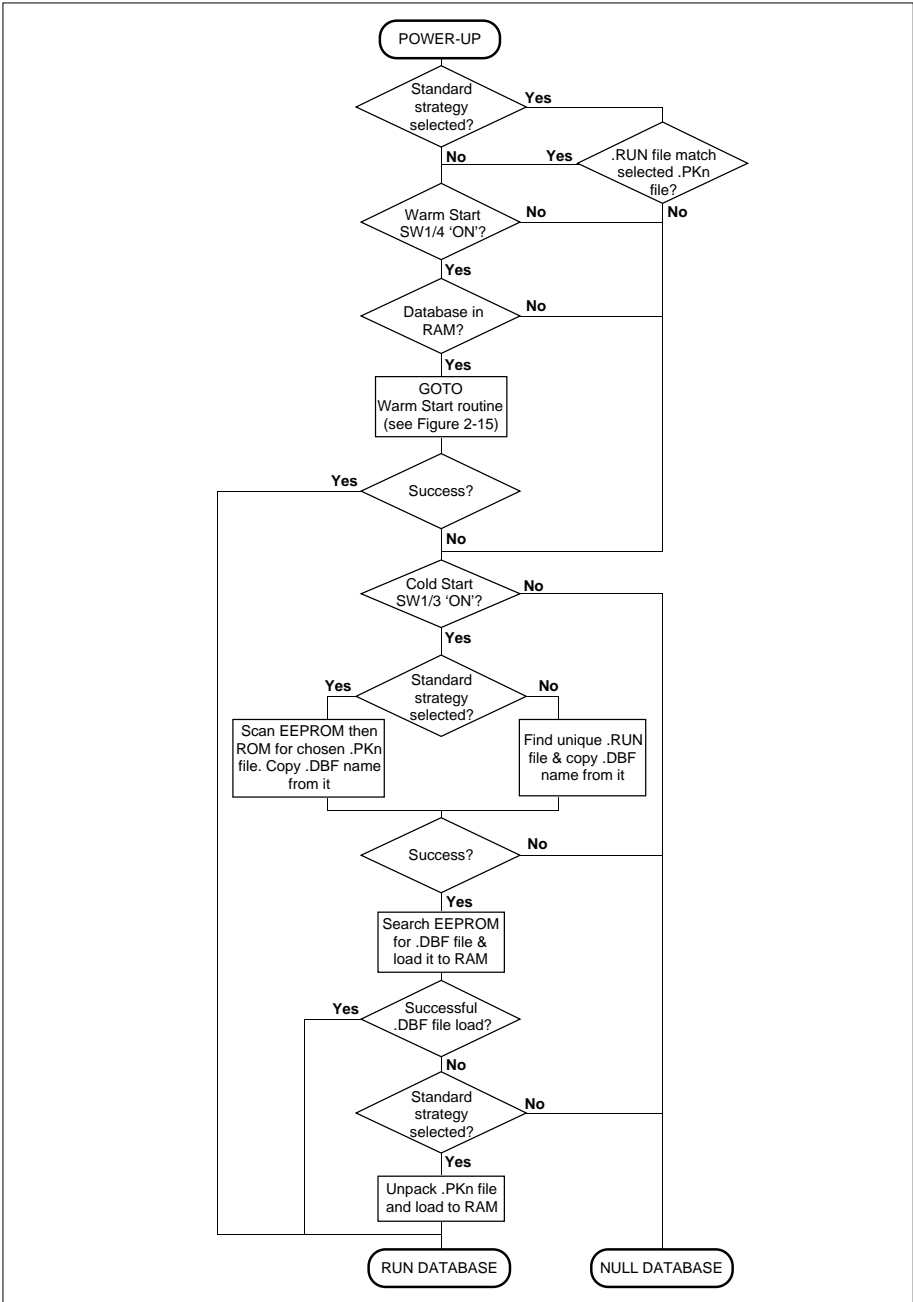
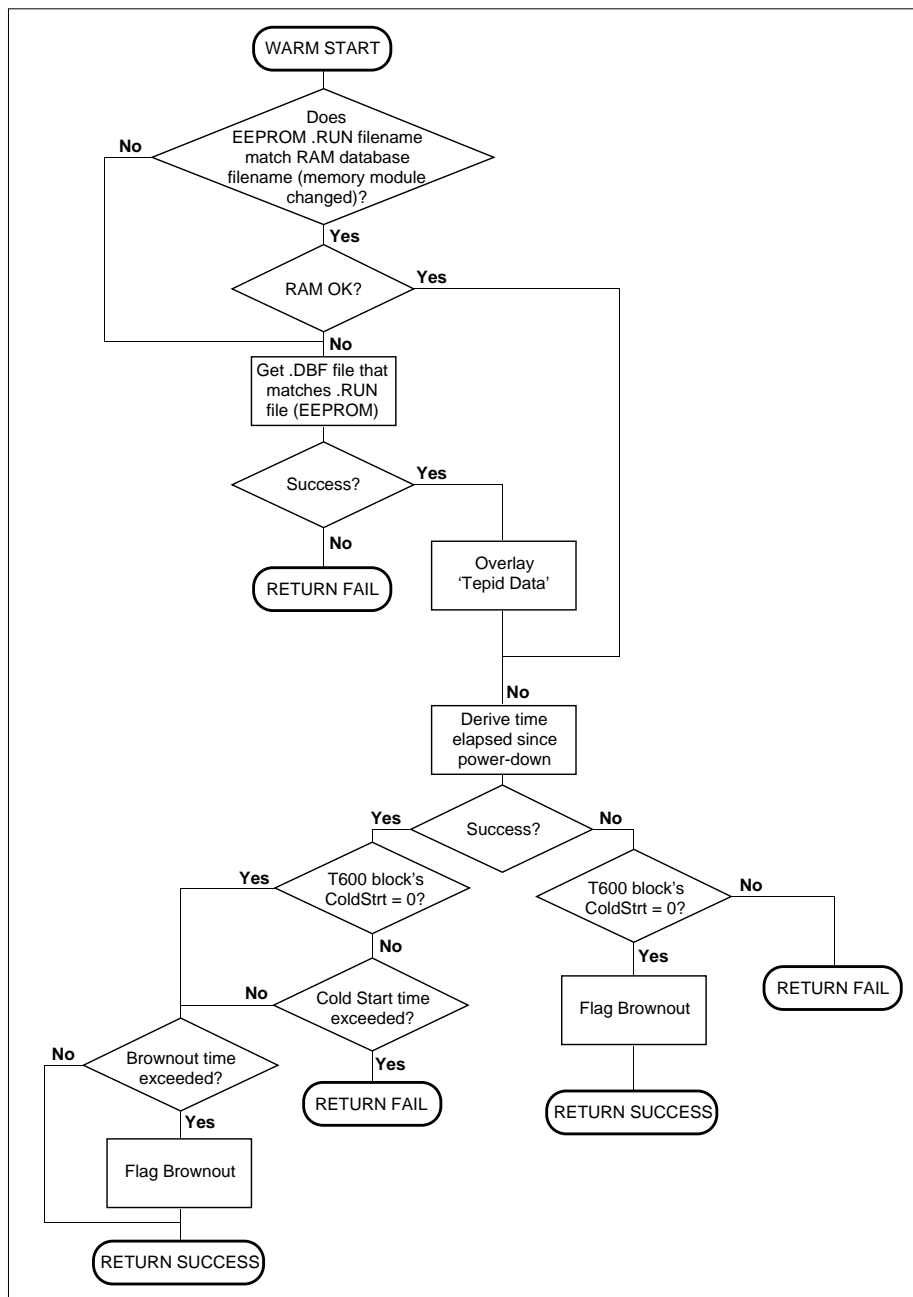

Figure 2-14 T640 power-up routine
Figure 2-15 T640 warm start routine (&amp; see Figure 2-14)
Figure 2-14 charts the events that occur when T640 is powered up. Figure 2-15 shows the warm start routine that may be called during power-up, and should be read in conjunction with Figure 2-14. As there is no hardware realtime clock in the T640, it must derive elapsed time since power-down (needed in the warm start routine) from a clock it maintains over the peer-to-peer communications. If this is not possible, power-up follows the alternative route shown in Figure 2-15. After loading, the entire database is subjected to a sumcheck test.
At the end of each task iteration a package of data is assembled in a .TPD file in RAM, ready to be written to EEPROM should a power-down occur. This data — ‘tepid data’ — includes each loop’s local setpoint (SL), output (OP), and operating mode (MODE). In the event of a power-down, there is enough time for the tepid data in the .TPD file to be transferred rapidly to EEPROM, ready to be used if required during a subsequent warm start routine (see Figure 2-15). The tepid data is ‘coherent’ (see Chapter 8, *Data Coherence*) because it is assembled only from completed tasks.
DIL switchbank SW1, switches 3 and 4, determine how T640 starts up after a power interruption — as charted in Figures 2-14 and 2-15. For normal T640 operation both switches should be 'ON' to provide full warm start and cold start capability.